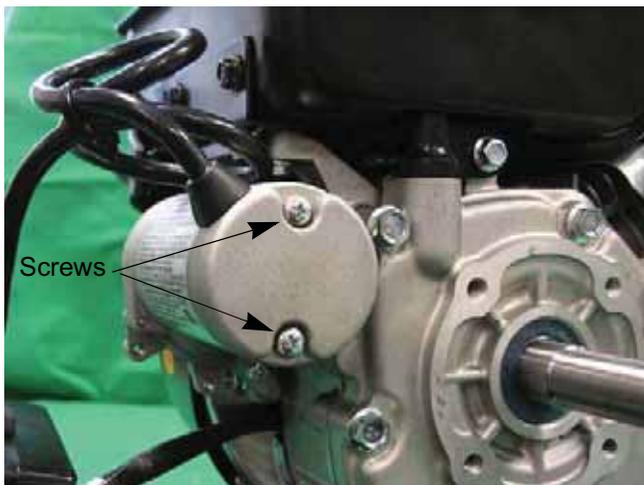

Figure 6.14
3. Remove the two screws that attach the starter's end cap to the starter using a #2 Phillips screwdriver. See Figure 6.14.